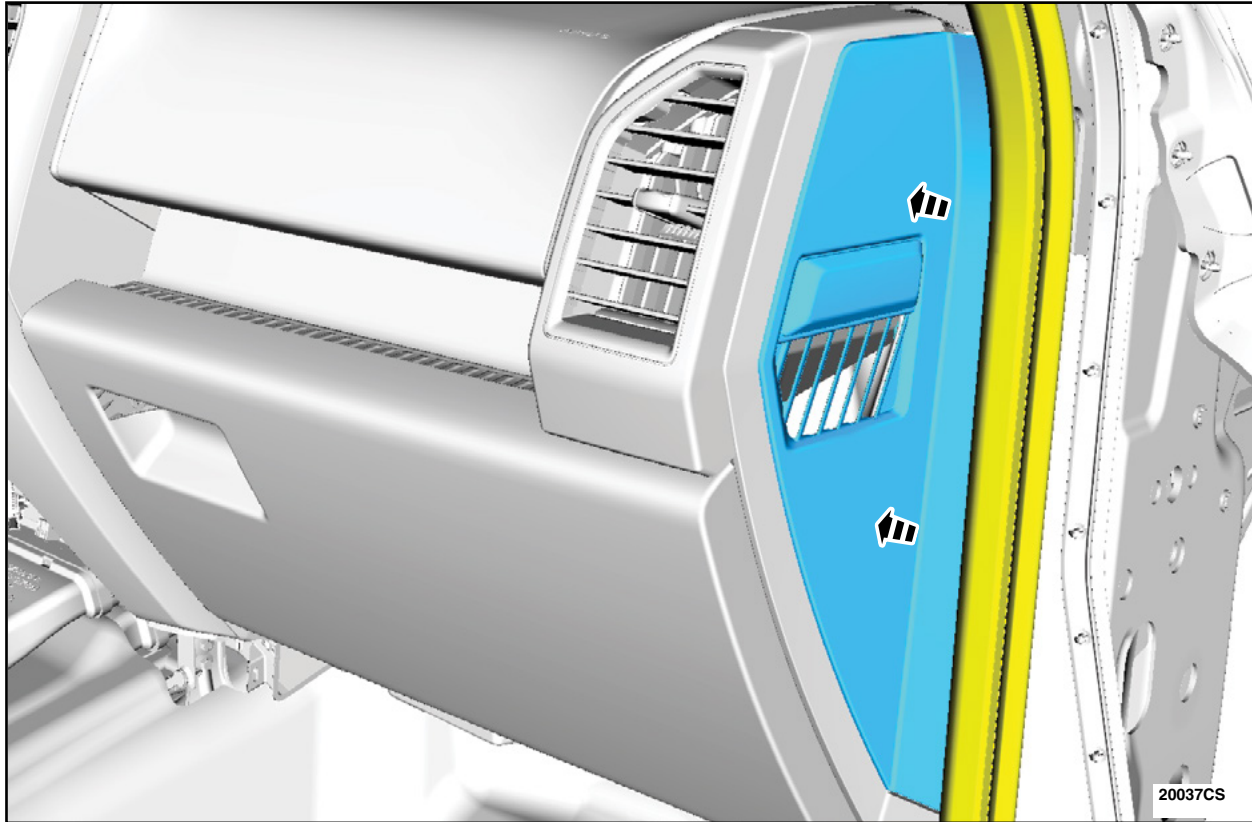

FIGURE 101
92. Install the RH Instrument Panel Finish Panel. Position back the weatherstrip. See Figure 101.